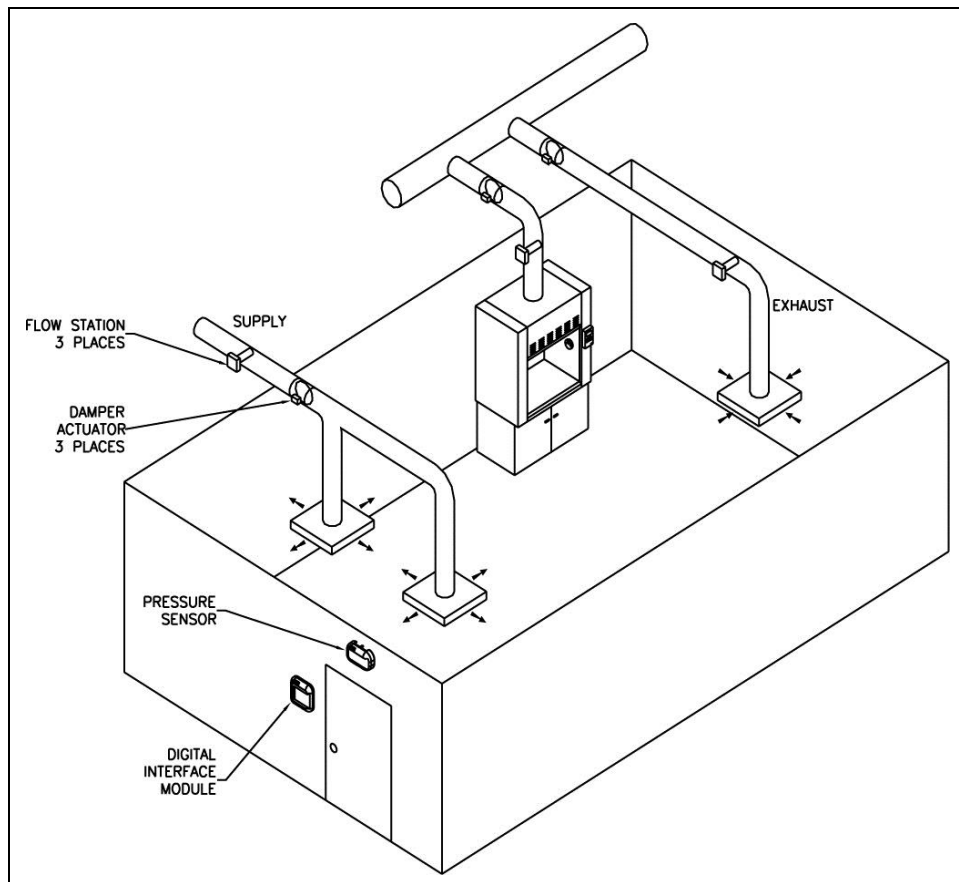

Figure 1: Typical Laboratory Installation
1. Select the mounting location of the Digital Interface Module (DIM). The construction plans normally show the mounting location. If no location is specified, the unit is typically installed as shown in Figure 1, either in the laboratory or in the hallway.